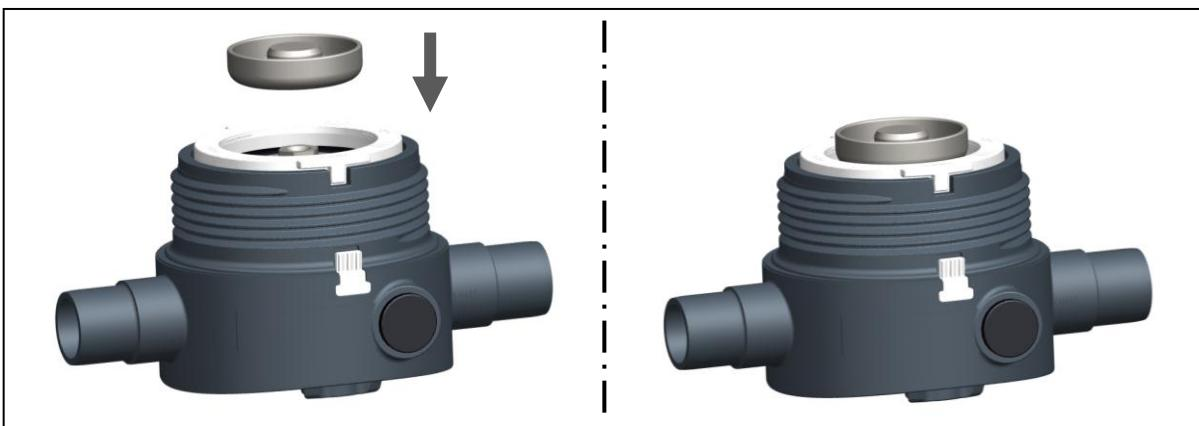

Fig. 14
- Put the thrust piece on the cartridge, see Fig. 14